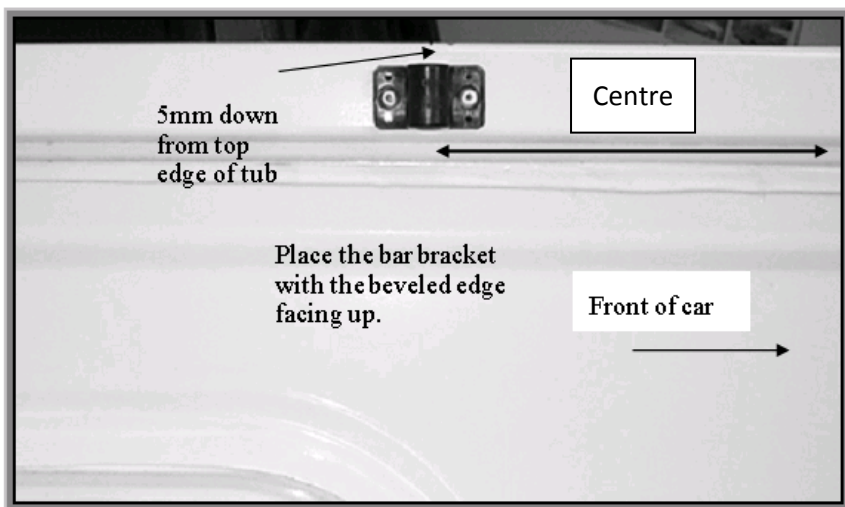

Figure 2: Placement of bar bracket
5. With a pencil mark the inside edge on each side of the tub at the Midway Point of the tub from the inside front face of tub towards the rear on each side. Centrally locate the bar bracket over this position and align the top of the bar bracket 5mm down from the top edge of the tub and drill and rivet bracket into place. **See Figure 2.** Repeat for other side of tub. Fit tonneau support bar to bar brackets.